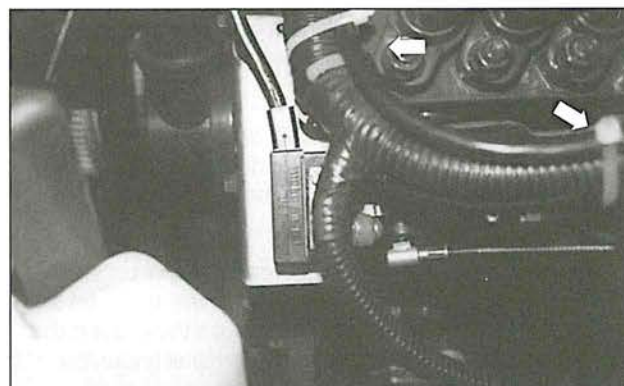

Fig. 19
- f. Secure the wire leads from the fuel pump switch to the existing vehicle wire harness as shown in Figure 19.
- Use cable ties to secure the switch's wire leads away from heat or moving objects (arrows, Fig. 19).